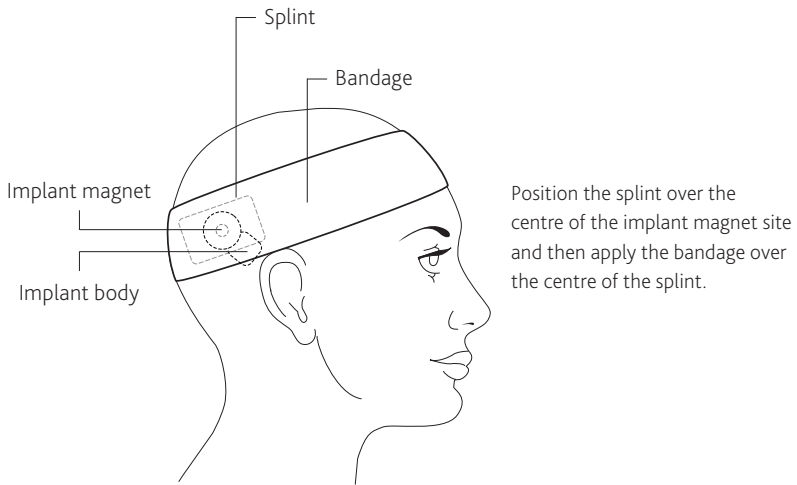

Figure 6: Fitting the MRI Kit splint and compression bandage
2. Use the elasticised compression bandage from the MRI Kit and ensure the centre line of the bandage is over the implant magnet site and the splint is fully covered. See *Figure 6* below.